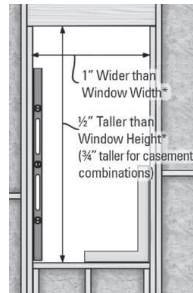

Figure 1
1. **(Required)** The Rough Opening should be level, plumb, and square. Dimensionally, it should be 1/2" taller and 1" wider than the frame dimension of the window or window combination (3/4" taller on casement combinations), excluding the nailing fins (See **Figure 1**). Note that horizontal mulls add 1" to the vertical dimension, and vertical mulls add 1" to the horizontal dimension of the individual units combined.
⚠ For Florida Building Code Compliance: The rough opening must have a maximum gap of 1/4" on any given side, instead of using the dimensions shown in **Figure 1**. Refer to the FL code for more information.